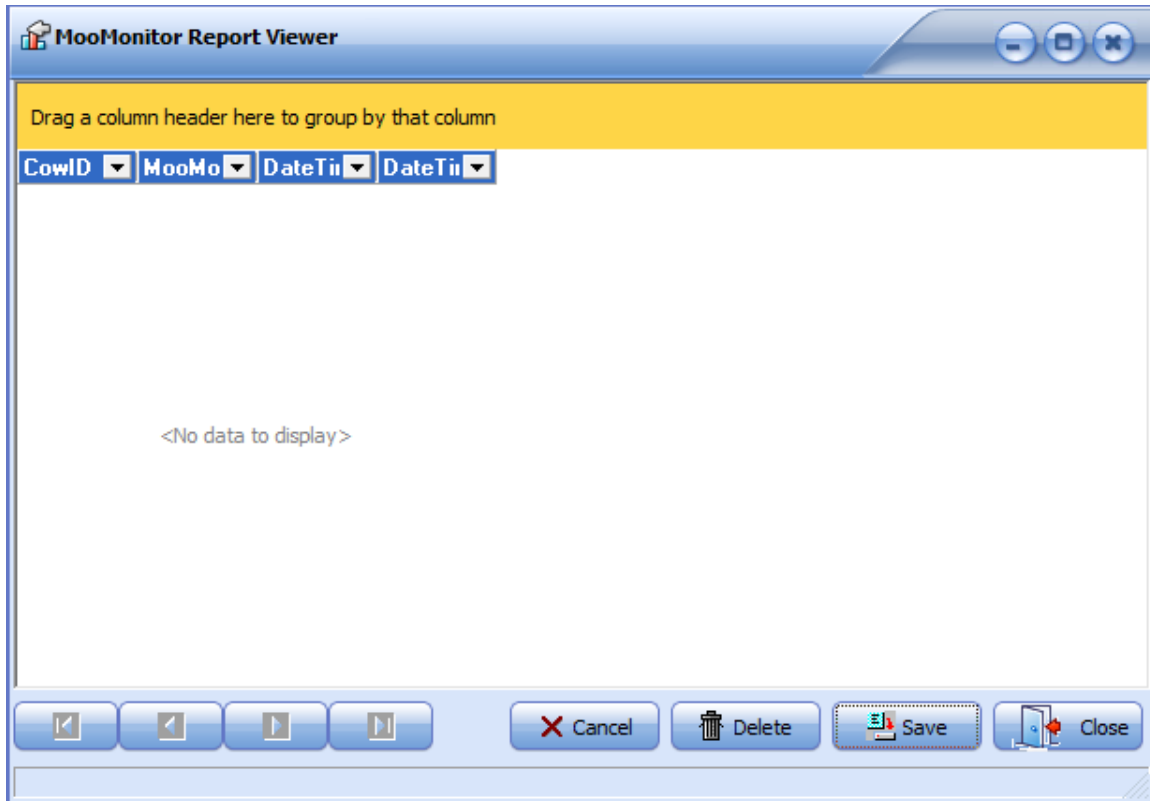

Figure 47 MooMonitors Not Downloading screen.
- b. The screen in Figure 47 below will be displayed.